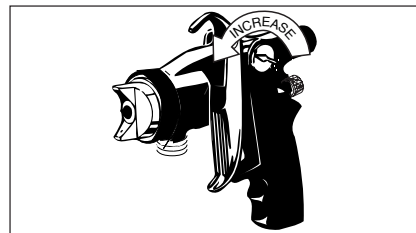

Figure 14 - Fine Pattern Adjustment
- For fine pattern adjustment, turn the air flow control knob clockwise to decrease and counterclockwise to increase air flow (See Figure 14).